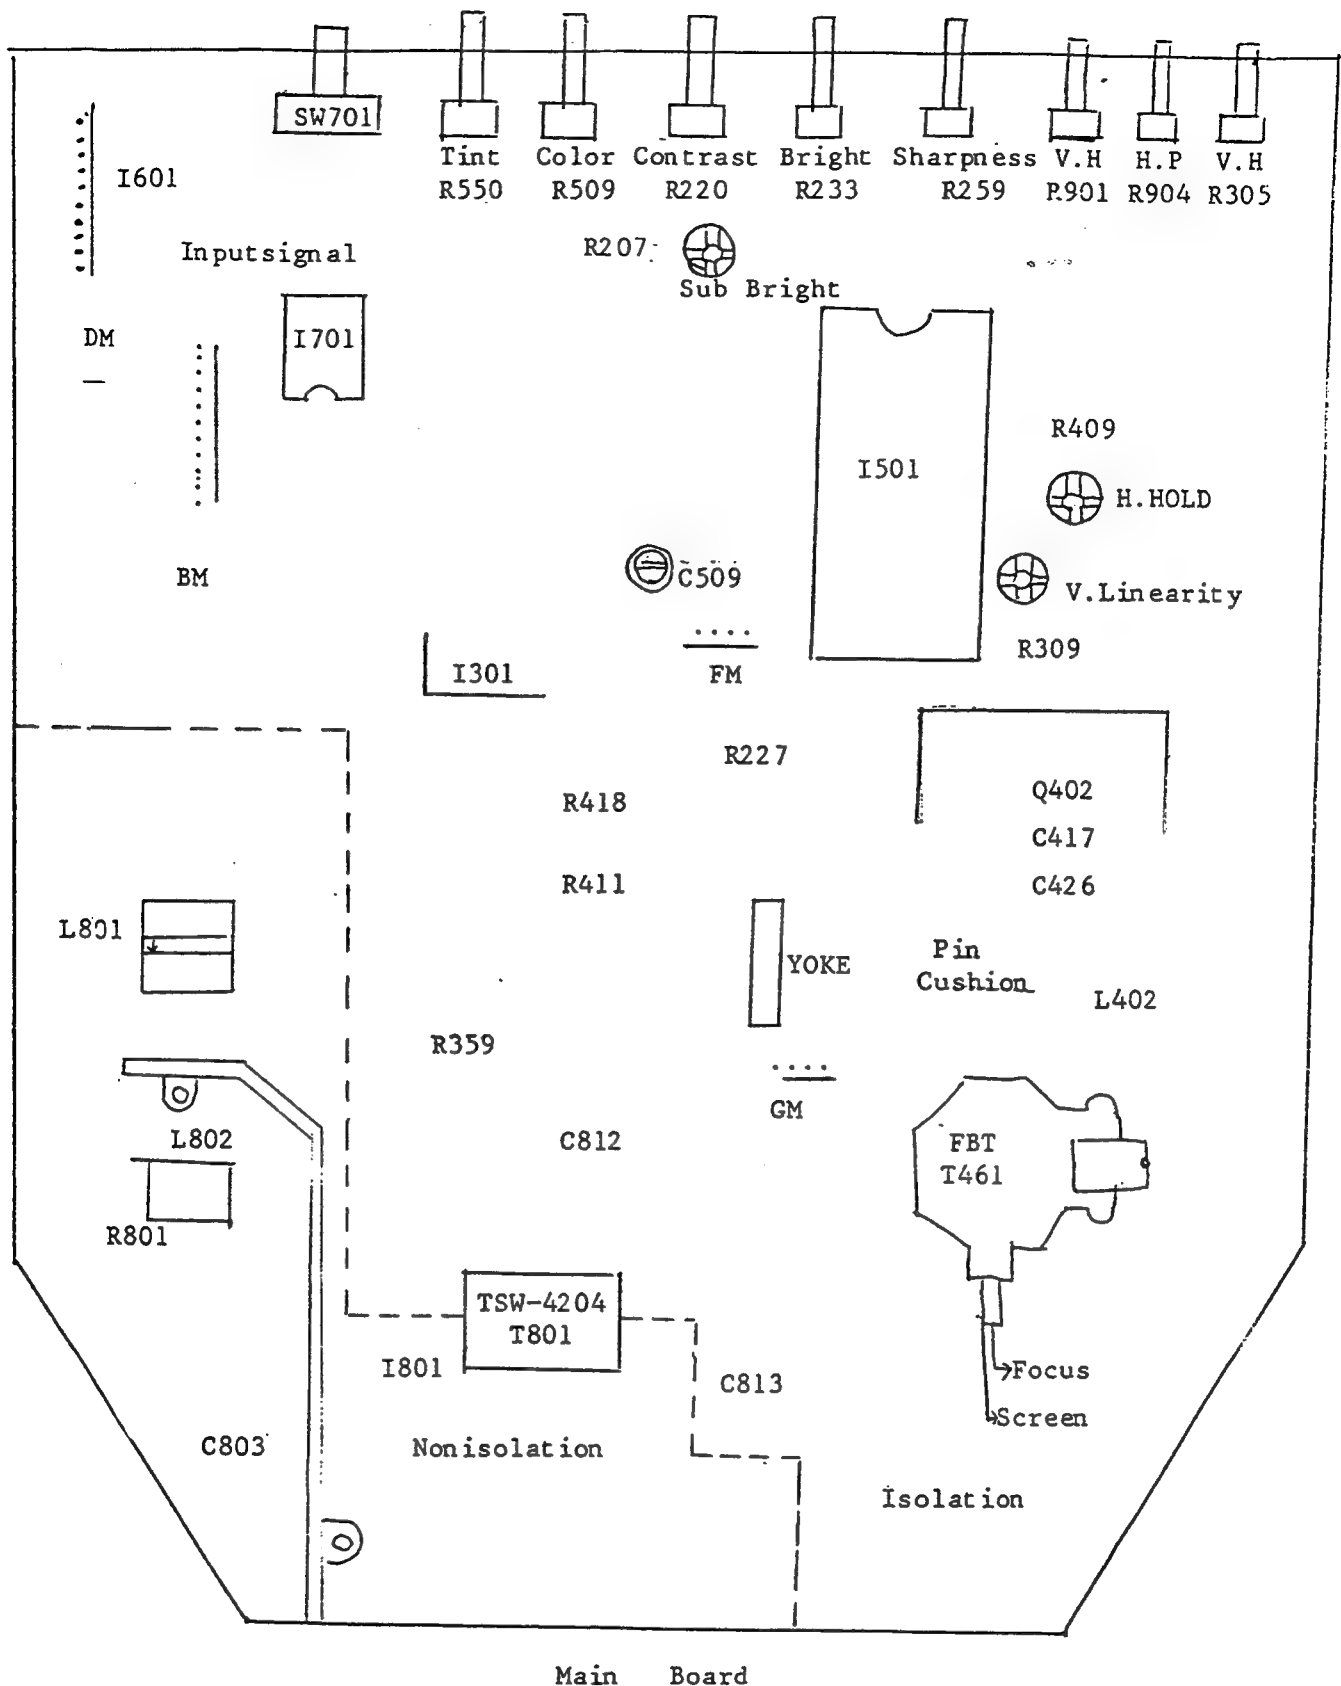

Fig. 10
4.5 APC Adjustment (See Fig. 10)
4.7 Vertical Position Control(R359) Adjustment (See Fig. 10)
4.8 Vertical Linearity Control(R309) Adjusting (See Fig. 10)